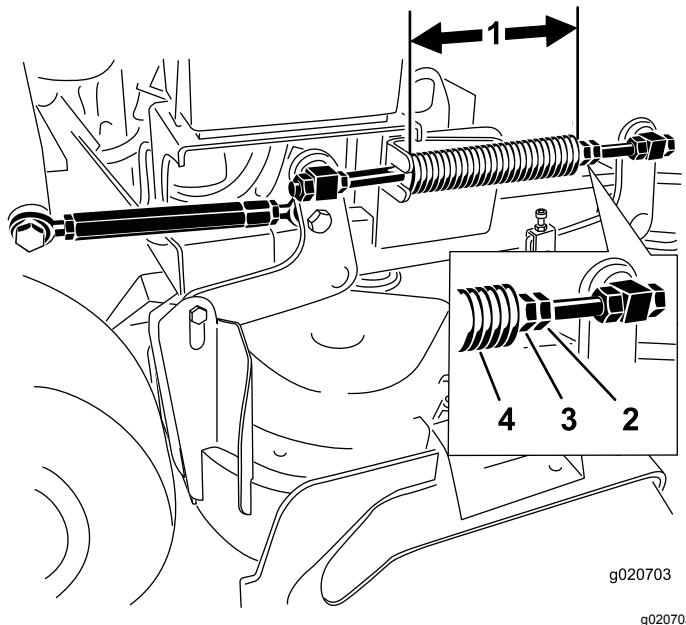

Figure 86
Note: Nominal length is 28.2 cm (11-1/8 inches) for 91 cm (36 inch) mower decks and 25.7 cm (10-1/8 inches) for 102 cm (40 inch) mower decks (Figure 86).
3. Adjust this distance by loosening the spring-jam nut and turning the nut in front of each spring (Figure 86).
4. Lock the nut into position by tightening the spring-jam nut (Figure 86).